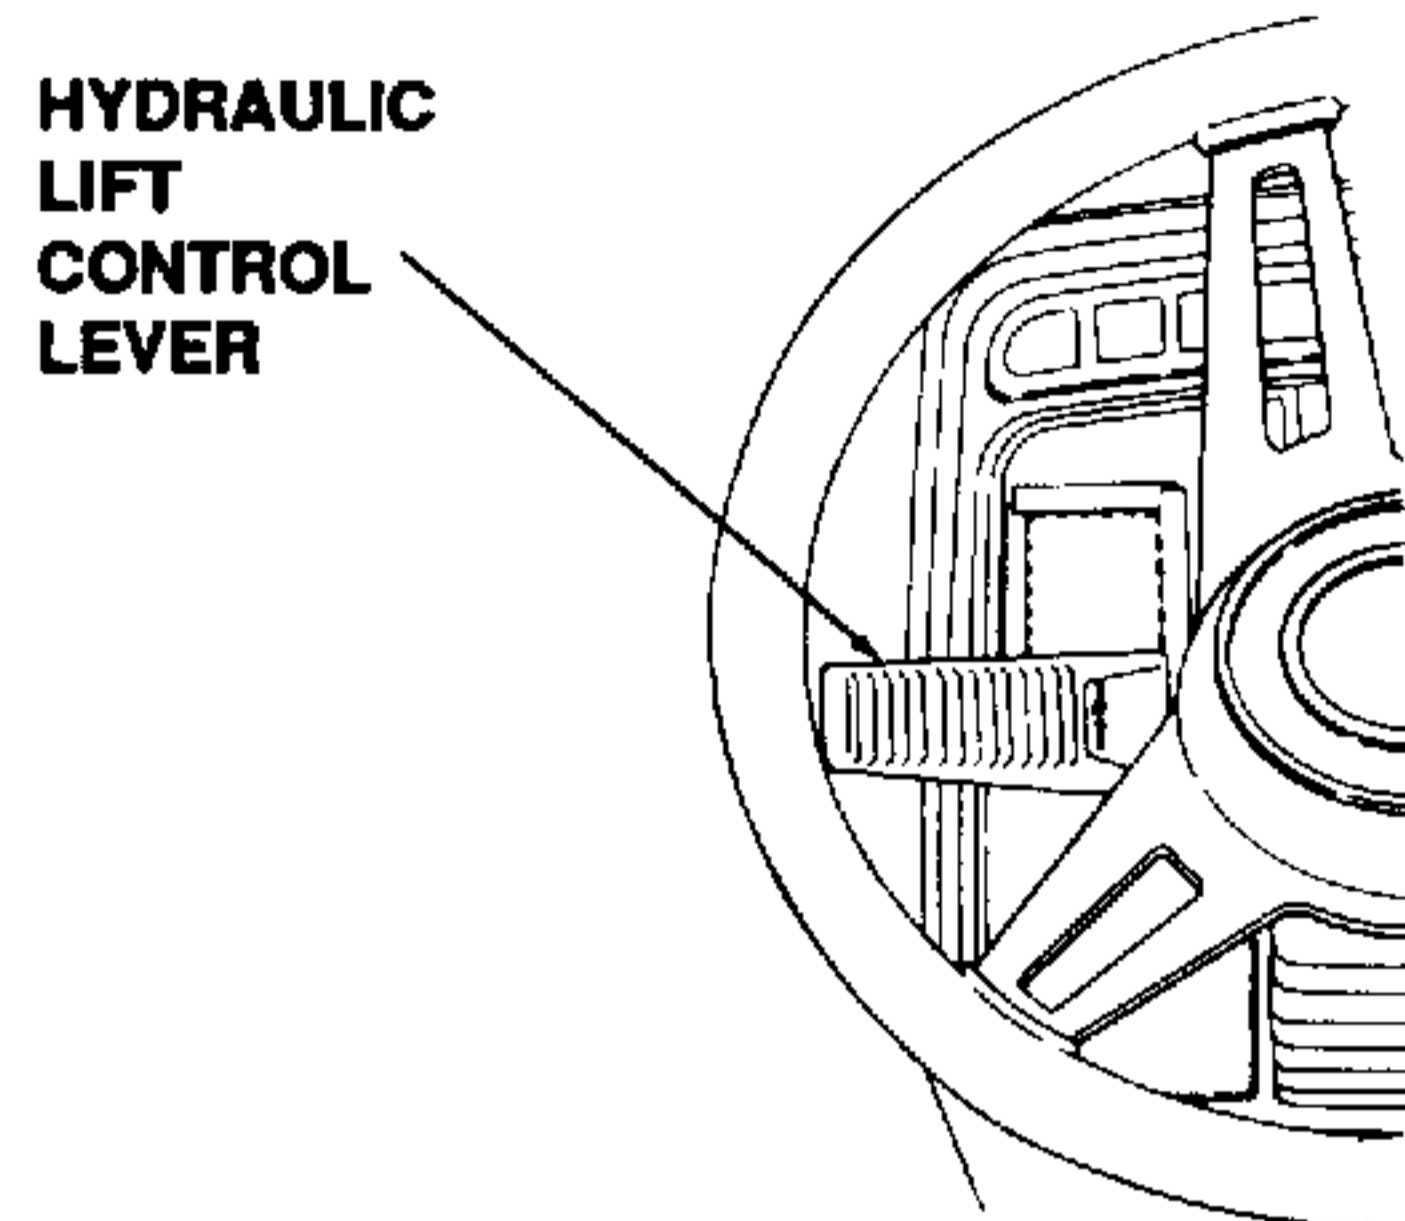

Figure 7-72. Preparing Dash Panel for New Hydraulic Valve Handle.
- a. Refer to Figure 7-72 and scribe an area extending approximately 1-3/4 inches above
hydraulic lift control lever. Refer to Figure 7-72.